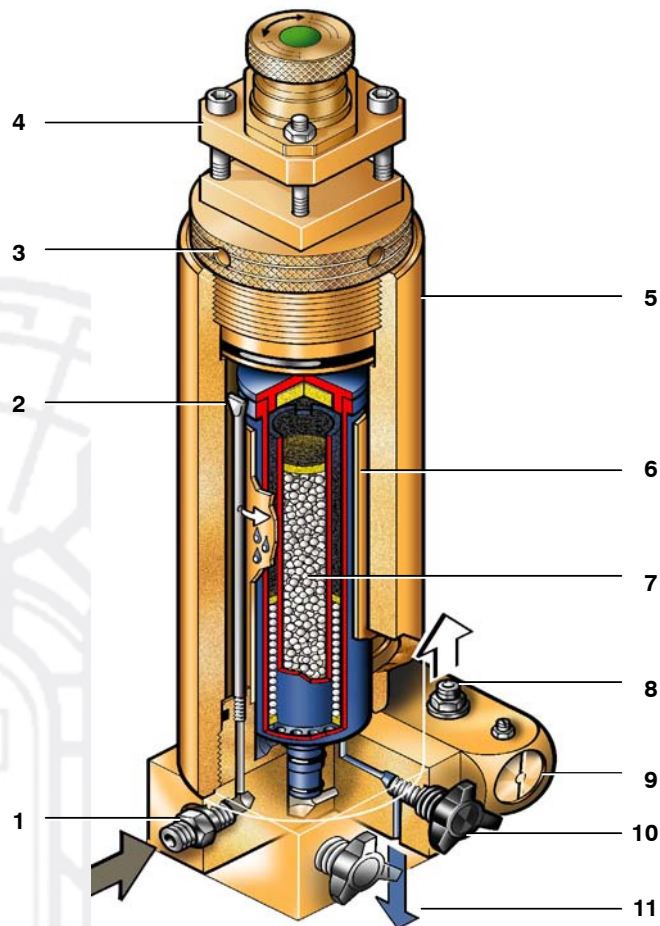

Fig. 29 Filter system P21
The air leaving the final stage is cooled in the after-cooler to approx. 10 - 15 °C (18 - 27 °F) above ambient temperature and then enters filter system P21 with **TRIPLEX** long-life cartridge (Fig. 29).
- Remove filter head (3, Fig. 29).